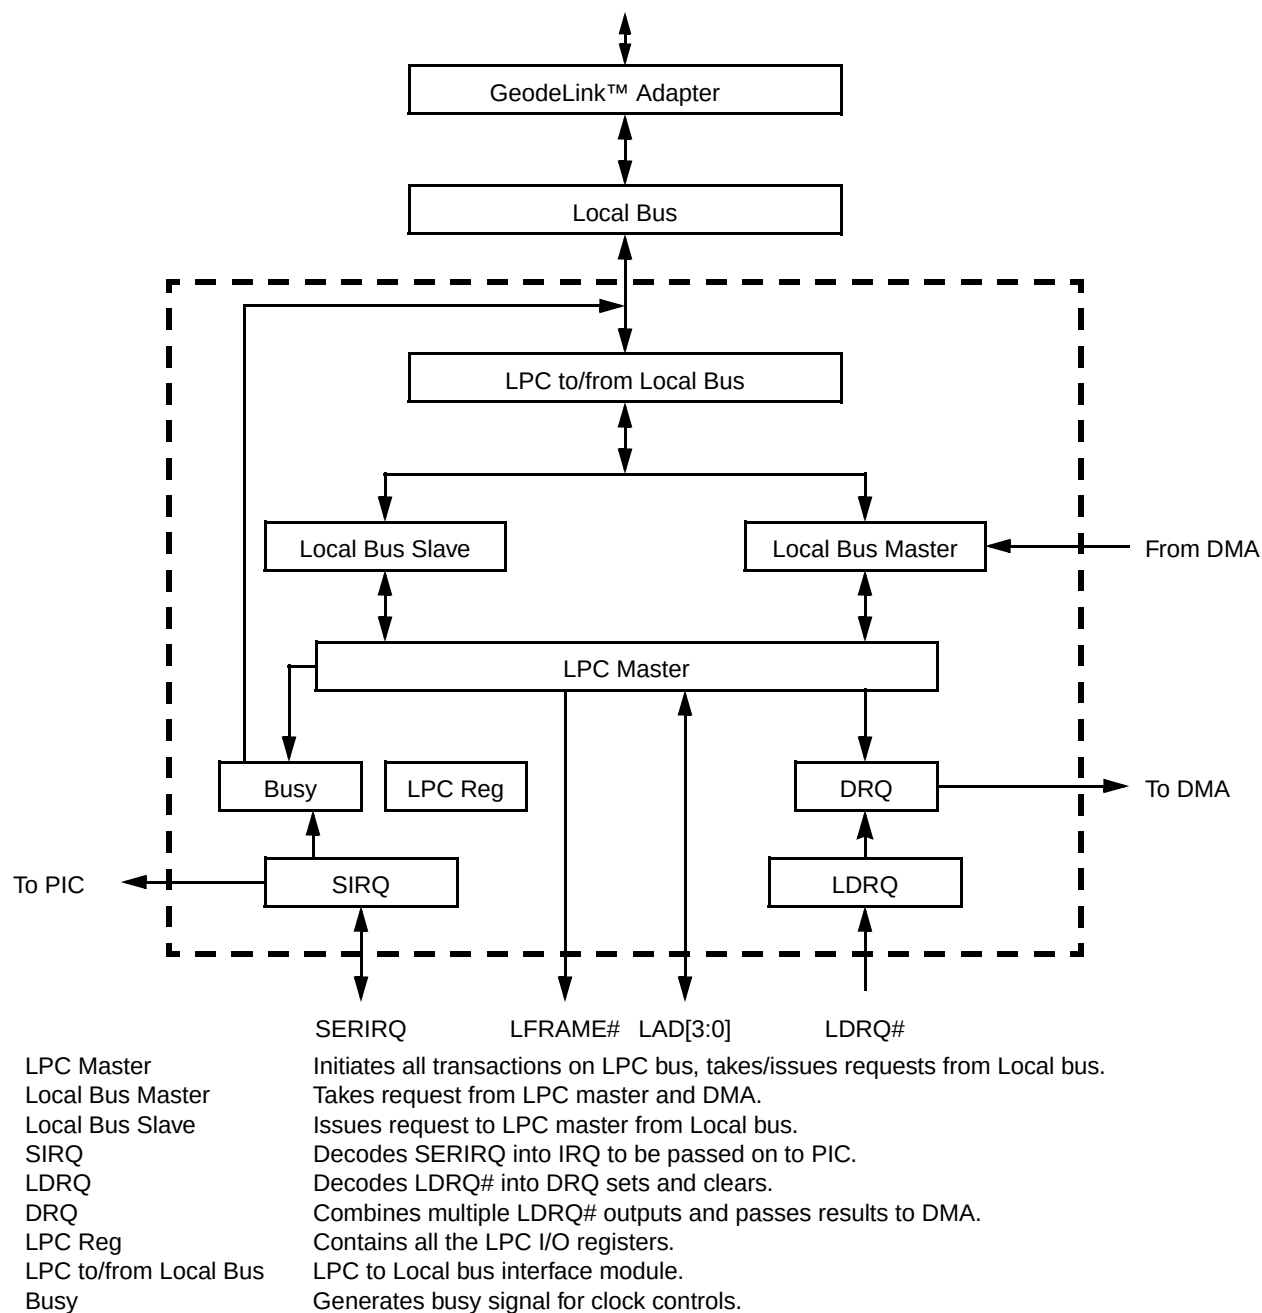

Figure 5-38. LPC Block Diagram
The Low Pin Count port is based on Intel's *Low Pin Count (LPC) Interface Specification v1.0*. In addition to the required pins, the Geode CS5535 companion device also supports two optional pins: LDRQ# and SERIRQ. The LPC interface supports memory, I/O, DMA, and Intel's Firmware Hub Interface. Figure 5-38 shows the block diagram of the LPC port.
- The Low Pin Count port is based on Intel's *Low Pin Count (LPC) Interface Specification v1.0*. In addition to the required pins, the Geode CS5535 companion device also supports two optional pins: LDRQ# and SERIRQ. The LPC interface supports memory, I/O, DMA, and Intel's Firmware Hub Interface. Figure 5-38 shows the block diagram of the LPC port.